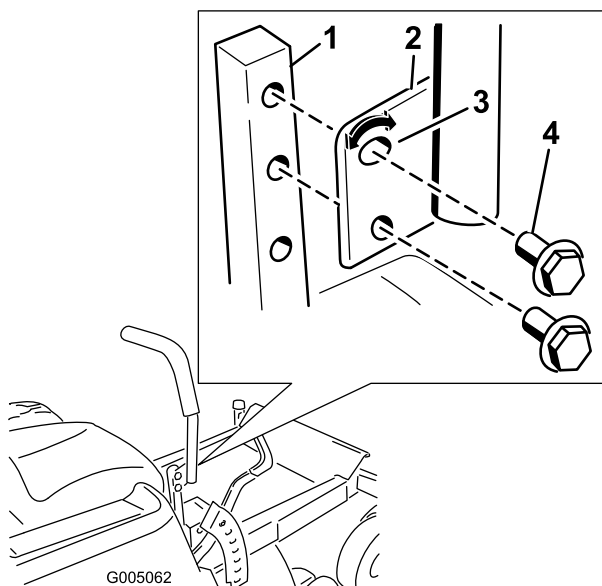

Figure 21
1. Remove the 2 bolts holding the control lever to the control arm shaft (Figure 21).
2. Move the control lever to the next set of holes. Secure the lever with the 2 bolts (Figure 21).
2. Loosen the lower bolt just enough to pivot the control lever fore or aft (Figure 21). Tighten both bolts to secure the control in the new position.